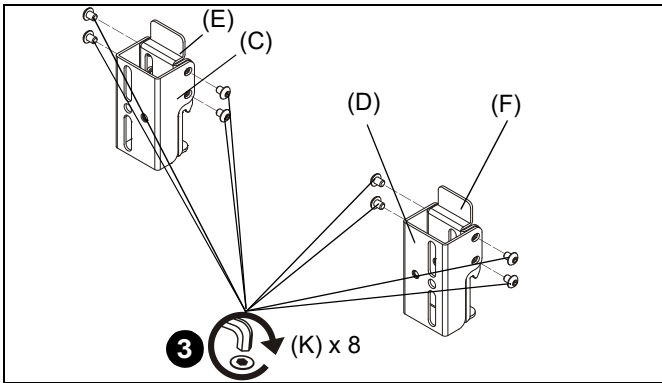

Figure 16
3. Use eight #10-24 x 1/4" button head cap screws (K) to secure two wall speaker interfaces (C and D) to two speaker interfaces (E and F). (See Figure 16)